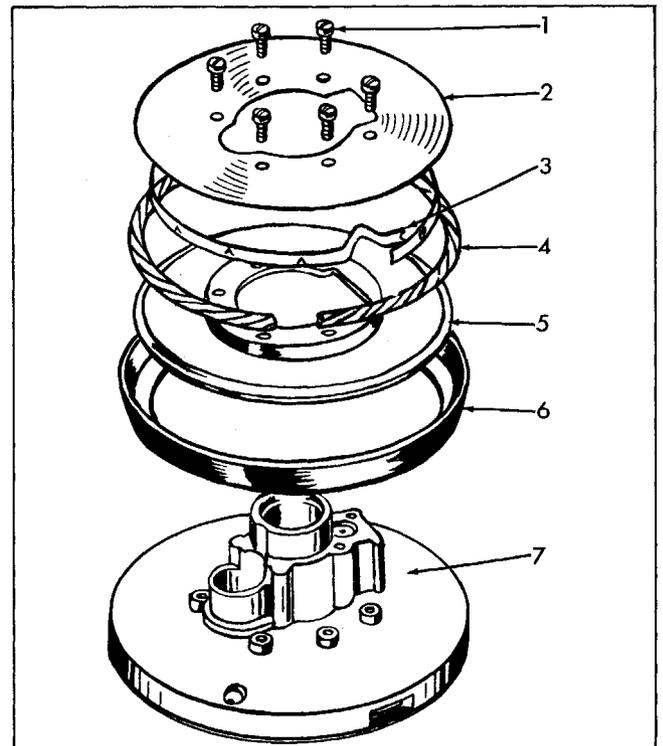

Fig. 5-27 Removal of Packing and Plates from Rear Piston Plate
**REMOVAL OF PACKING AND PLATES FROM REAR PISTON PLATE (FIG. 5-27)**